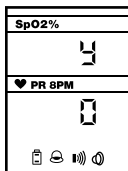

Fig. 4
2. Hit the menu button four times to enter into the time setting screen shown as Fig. 4. Press the up or down button to set the suitable year, and then press the left or right button to enter into the other date and time parameter setting pictures.